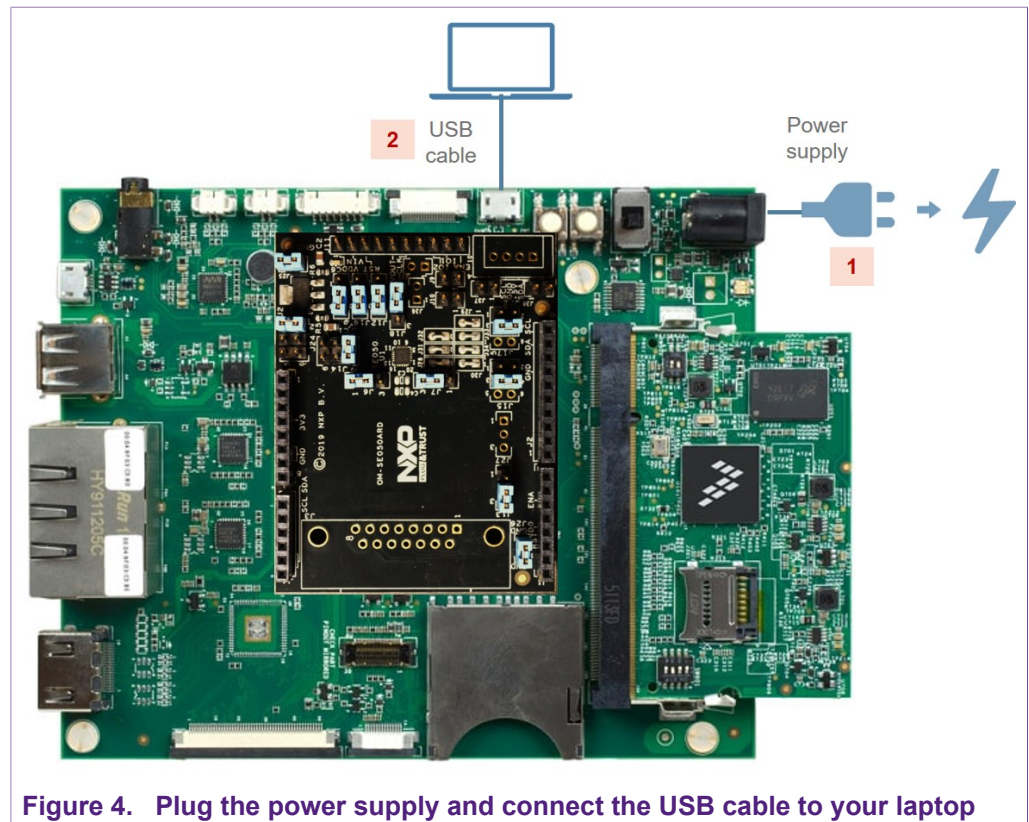

Figure 4. Plug the power supply and connect the USB cable to your laptop
1. Plug the power supply and connect the USB cable to your laptop as shown in Figure 4.